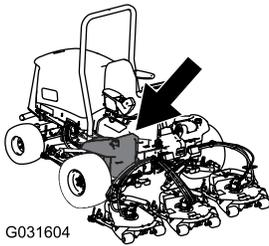

**Figure 91**
1. If the deflection is not 10 mm (3/8 inch), loosen the alternator mounting bolts (Figure 91).